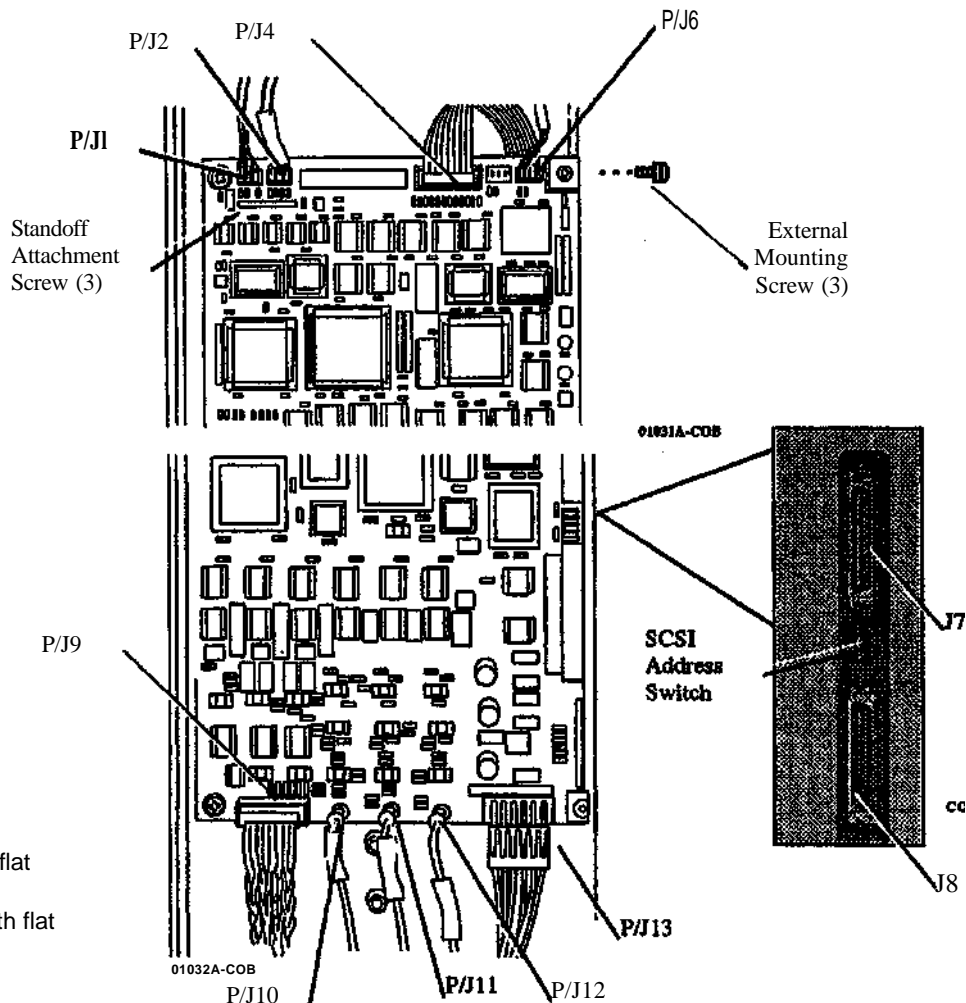

Figure 1. Top and Bottom Edge - Control PWB
2. (Figure 1): Install the 3 external flat washers, lock washers, and mounting screws.
5. (Figure 1): Set the SCSI Address Switch to the same address as was set on the removed Control PWB.